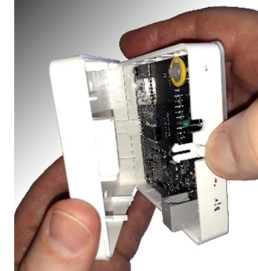

Fig 7.
- Step 1** Press release button on side of Controller case and pull the back case away (see Fig 7).